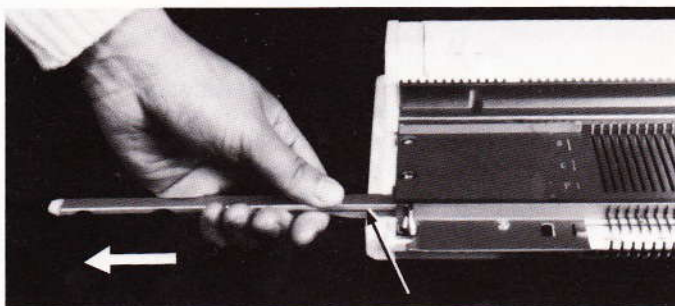

Fig. 229
- When the bar has been pushed out 2 cms on the other side, pull it until the faulty needle is released (fig. 229).